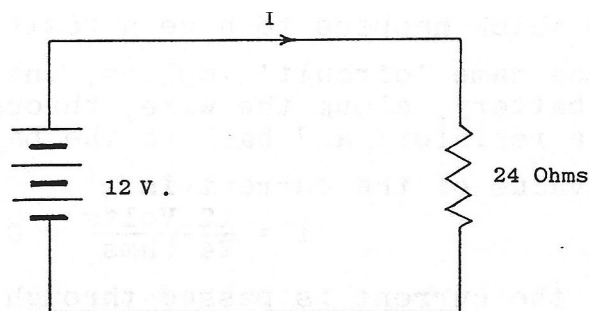

Fig.45.
Let us see 12 volt battery to a lamp which how this applies to a simple circuit. Suppose a 12 volt battery is connected with a wire of negligible resistance to a lamp which happens to have a resistance of 24 Ohms (Fig.45) As the name 'circuit' implies, the current (I) must flow from the battery, along the wire, through the lamp (which is drawn as a resistor) and back to the battery along the other wire.